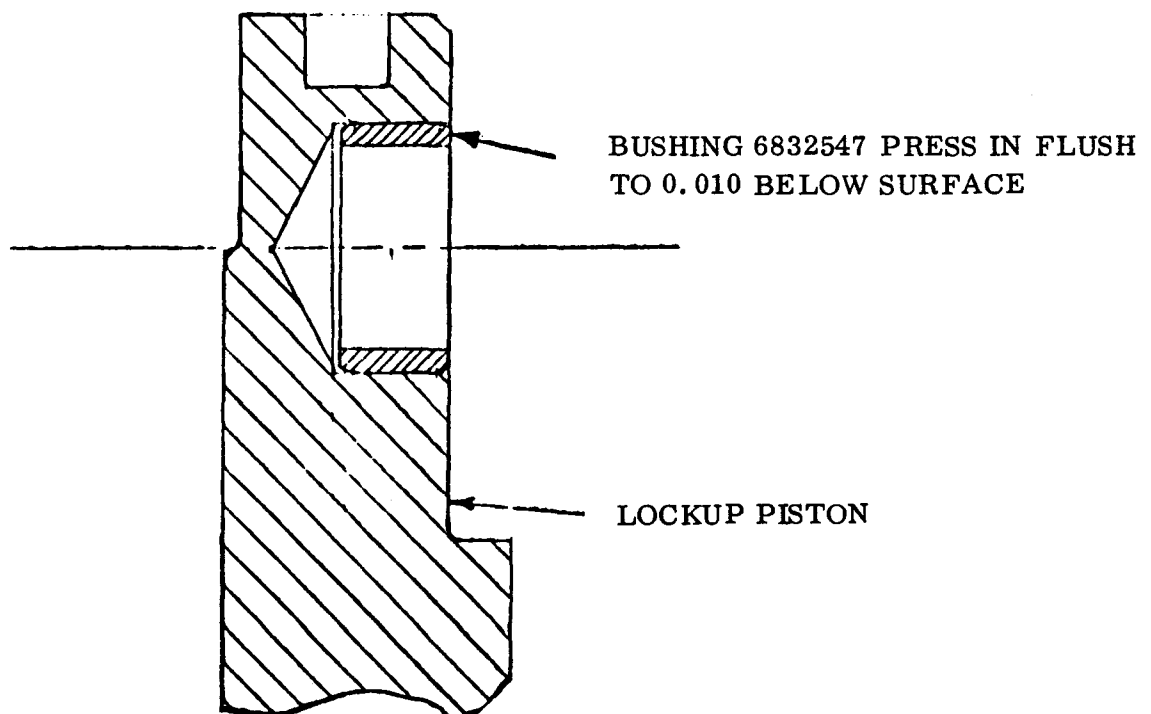

FIG. 2. LOCKUP PISTON - BUSHING INSTALLED
3. Install bushing, pressing it into bore, flush to 0.010 inch below bore surface. Refer to Figure 2.